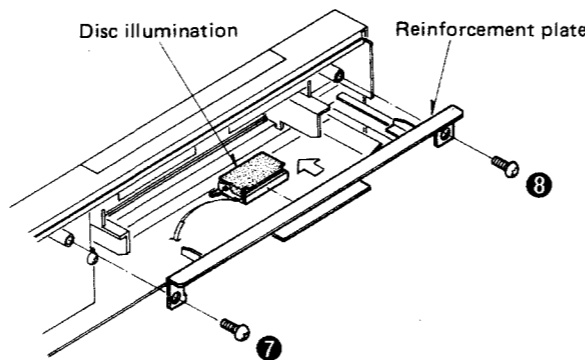

Fig. 4
2. Remove the 2 setscrews [Fig. 4 : ⑦, ⑧] of the reinforcement plate.